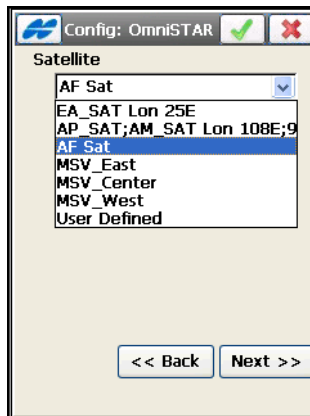

Figure 4-58. Config: OmniSTAR
- For OmniSTAR-VBS and OmniSTAR-HP (a wide-area, satellite delivered, differential Virtual Base Station and High Performance GPS services), select the name of the satellite to be used (Figure 4-58).